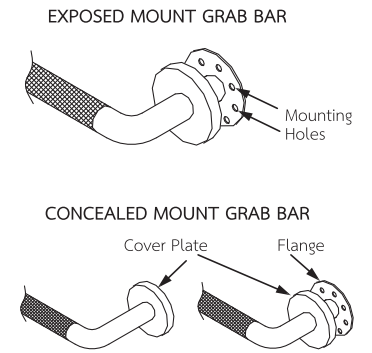

Fig. 2
1. Remove the parts and products from package. If concealed mount Grab Bar is used, move cover plates away from mounting holes. (Fig. 2)